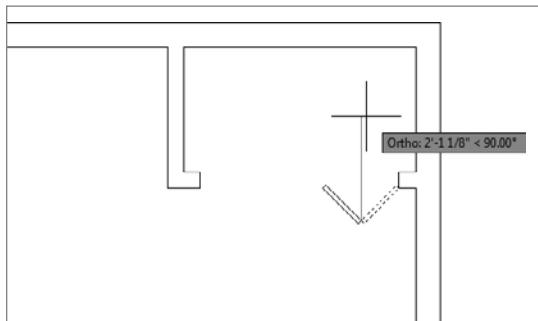

FIGURE 4.77 Mirroring the first closet door panel
12. Move the cursor either up or down until you see the mirror door panel directly to the left of the first panel (see Figure 4.77); then click to specify the second point of the mirror line.